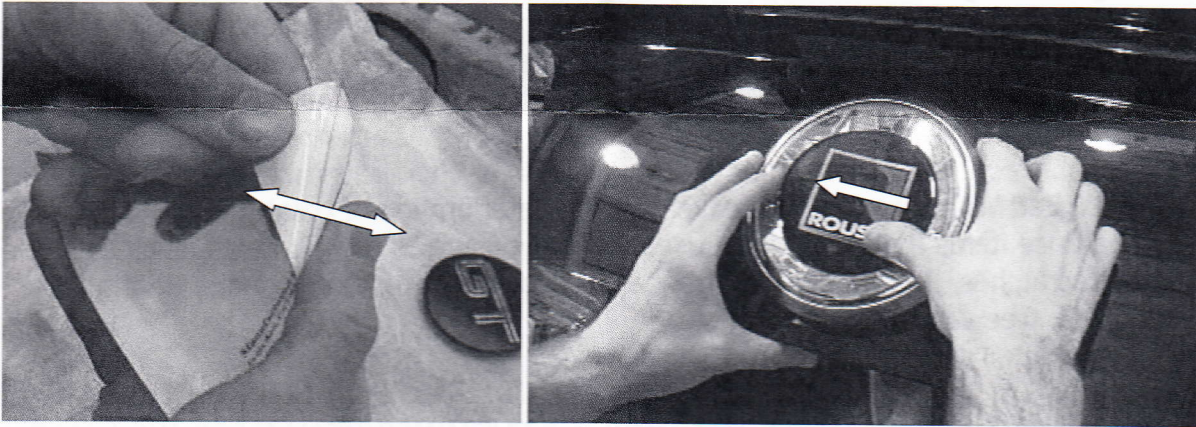

Figure 8
10. Remove the white backing paper from the back side of the Dome Badge. Avoid finger contact to the adhesive and trapping air bubbles under the badge. Using a steady hand and a keen eye, apply the Dome Badge to the Die Cut Spacer. Refer to Figure 8. Once installed, apply firm pressure to the center and outward for a tight bond.